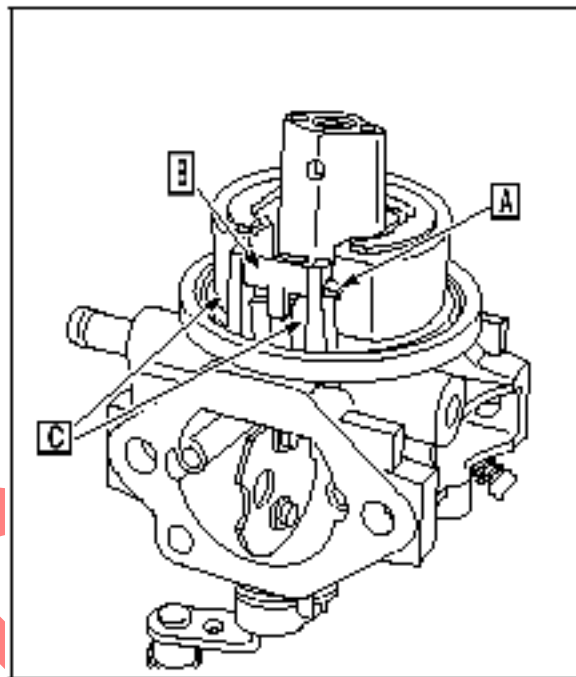

Fig. 97
Remove float hinge pin (A), float ([B] Fig. 97), and inlet needle.
Tap the end opposite the flats with a center punch ([C] Fig. 97) until it is loose.